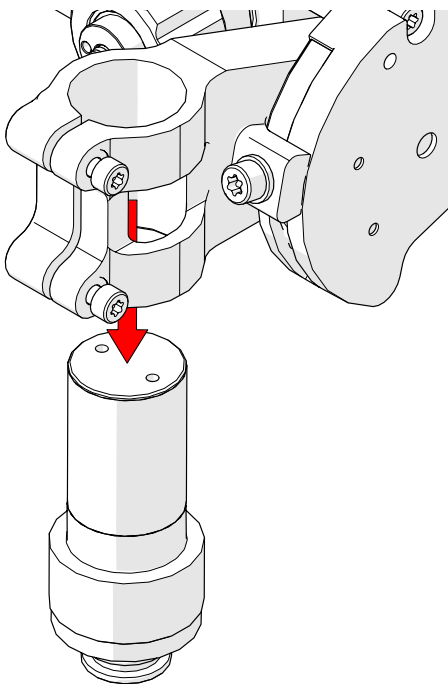

Fig. 184 - Remove idler shaft
2. Remove idler shaft (*Fig. 184*).